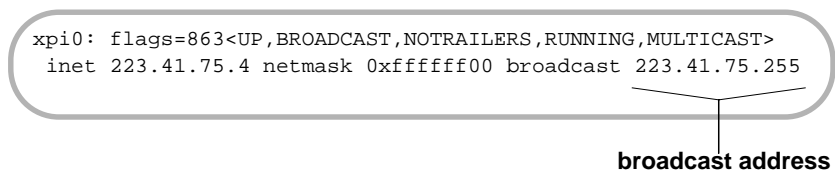

Figure 2-7 Displaying Broadcast Address
5. In another shell window, determine the broadcast address for your network by using the command below. The broadcast address is the sequence of digits displayed in the location illustrated in Figure 2-7.